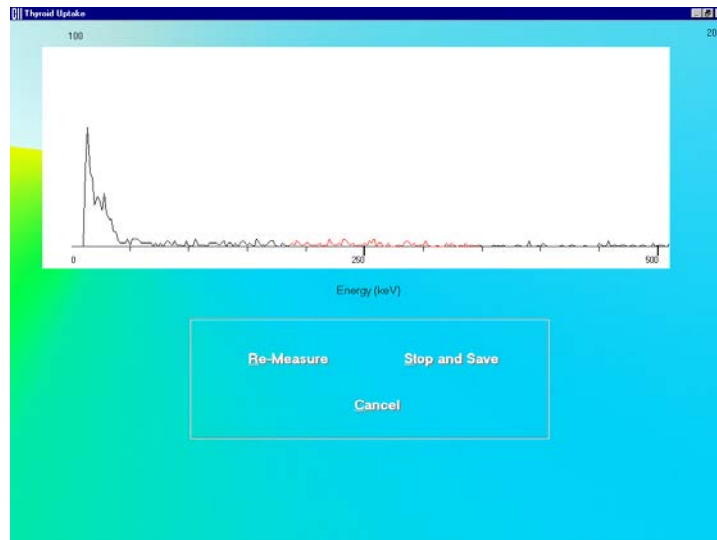

Figure 7-20
- From this point onwards, the program begins a cycle, directing you through to measure the background counts, capsule or patient depending upon the protocol and the stage of uptake procedure. Simply follow the on-screen instructions. As the count progresses, the screen appears as shown in Figure 7-20. The live spectrum is displayed with time elapsed at the upper right corner.
To know details about the data collection screen (Figure 7-20), refer to CHAPTER 3: GENERAL OPERATING INSTRUCTIONS; SECTION: MEASUREMENT SCREEN.